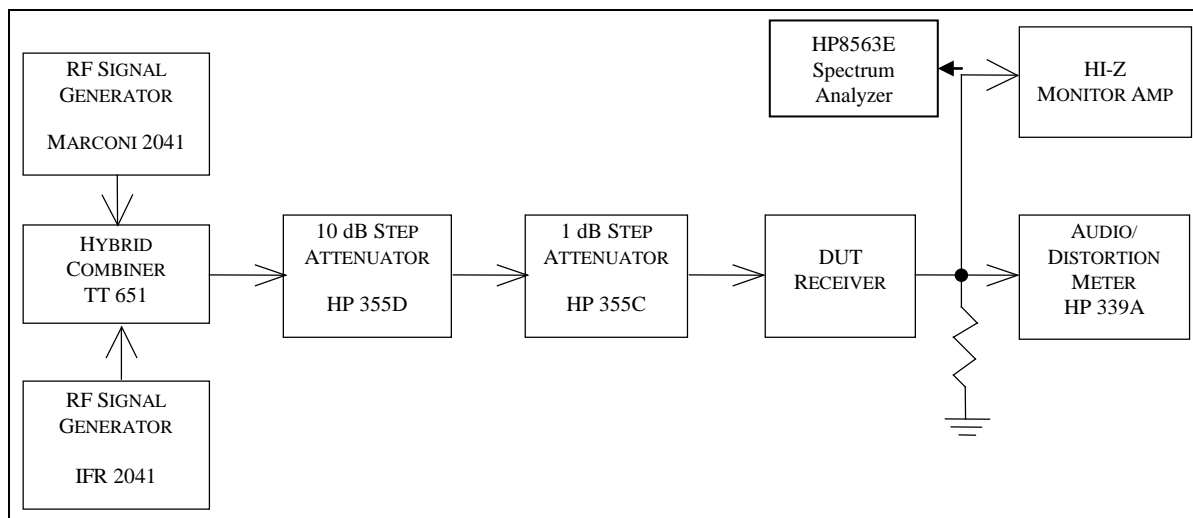

Figure 5-15 In-Band IMD Test Setup
5.15.2 Test Hook-up (See FIGURE 5-15)